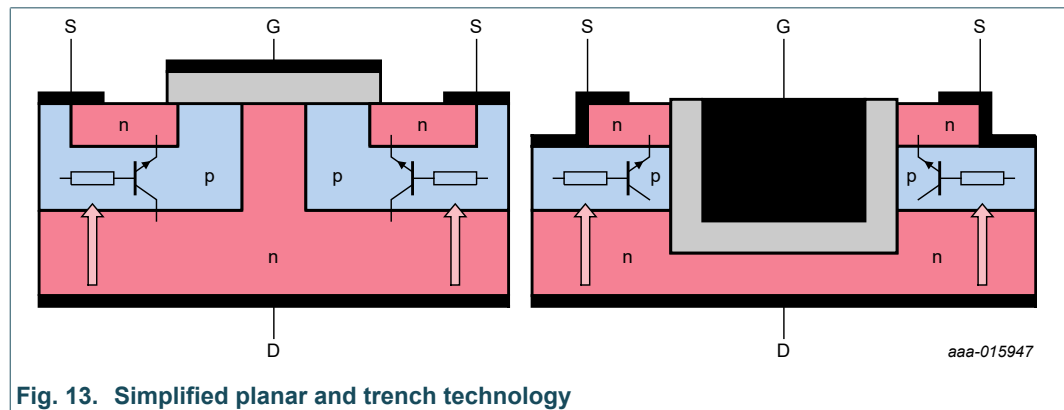

Fig. 13. Simplified planar and trench technology
**A:** In general - Yes, but Nexperia Trench MOSFETs are designed to suppress this effect. The trench structure, unlike planar, can be very easily designed to suppress parasitic turn on of the BJT. For new Nexperia MOSFET technologies, the failure mechanism is thermal, which represents the limit of achievable UIS performance. Planar (on the left in the diagram) and trench (on the right in the diagram) MOSFET technologies, are shown in Fig. 13. In the trench case, a design feature in the source contact effectively short circuits the base-emitter of the parasitic BJT. In older planar technology, the shorting of base to emitter of the parasitic bipolar is not as effective. It is due to the longer path length in the n and p regions.